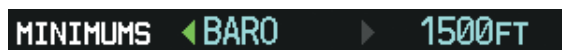

Figure 2-42 Barometric MDA/DH
- 2) Turn the large **FMS** Knob to highlight the Minimums field (Figure 2-42).